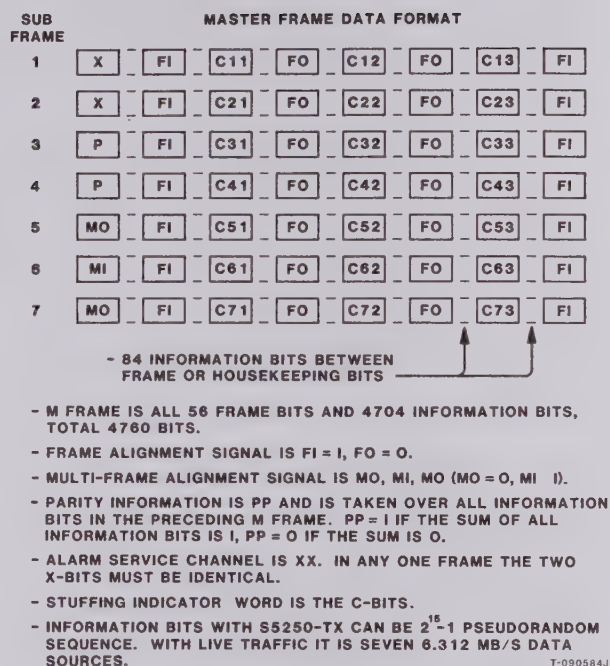

Fig. 16 - DS3 Signal Format
A.02 The 44.736 Mb/s DS3 signal format generated by the S5200E, MX3, and other multiplexers provide the basis for all DS3 framed measurements. Parity measurements on live traffic signals are made utilizing the DS3 format, as shown in Fig. 16.
A.10 The multiplexer counts all the information bits in one Master Frame of 4,760 bits (see Fig. 16). If the digital sum of all 4,704 information bits is 1, then PP = 11 in the next Master Frame. If the sum is 0, then PP = 00 in the next Master Frame.